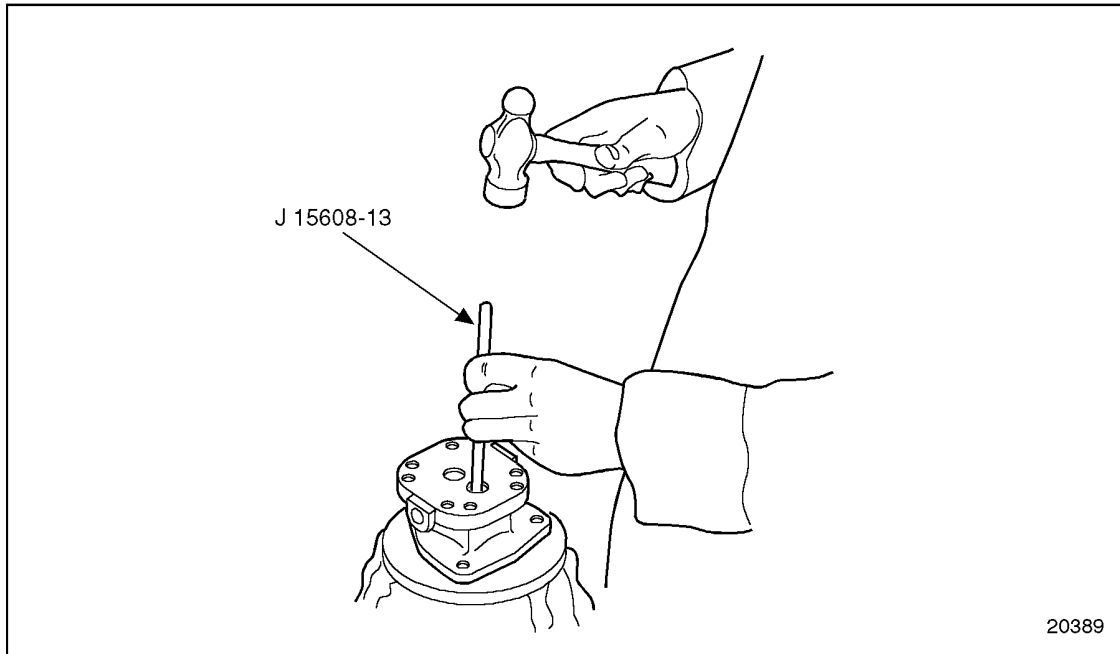

Figure 2-36 Oil Seal Removal
15. Position pump on fixture, J 38767-1 part of J 38767, and insert lip of seal remover, J 1508-13, between the inner and outer oil seals. Tap the tool with a light hammer to drive the outer seal out of the pump body. See Figure 2-36. Discard the seal.